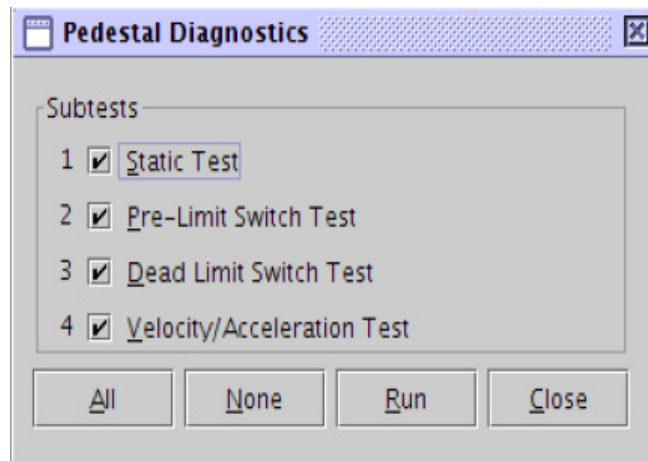

Figure 8-21. Pedestal Diagnostics Window
8.3.3.4 Pedestal Diagnostics. The `Pedestal Diagnostics` window (see Figure 8-21) is used to run subtests that test the pedestal status.